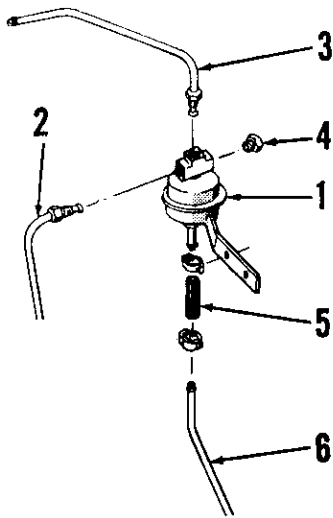
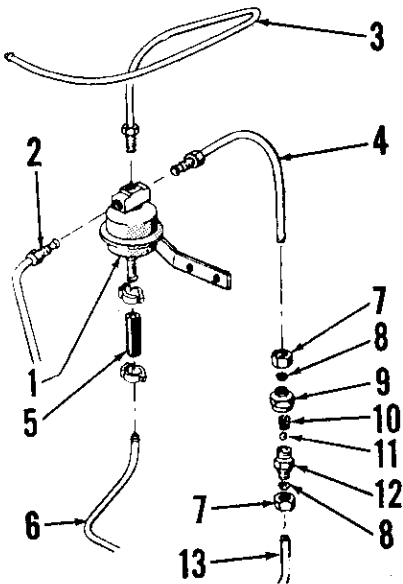

Fig. 144—View showing Thermostart reservoir and fuel line connections for models with C.A.V. fuel injection pump.
Fig. 145—View showing Thermostart reservoir and fuel line connections for models with Simms fuel injection pump.
Fig. 143—Cross-sectional view of diesel Thermostat unit (optional) that is located in intake manifold. Refer to Figs. 144 and 145 for fuel reservoir and fuel line connections.
162. Refer to Fig. 143 for cross-sectional view of the Thermostat unit which is located in the engine intake manifold. The fuel inlet (F) is connected to a small reservoir (see Figs. 144 and 145). In operation, turning the key switch to either "HEAT" or "HEAT-START" position connects Thermostat wire (W—Fig. 143) to battery heating the heater coil (HC) and ignition coil (IC). The hot coils react to pull the valve stem (VS) away from valve ball (VB) allowing ball to unseat and fuel to flow through the unit, where it is heated and ignited, and into the intake manifold.
For connecting fuel lines to Thermostart unit and reservoir, refer to Fig. 144 for models with C.A.V. fuel injection pump or to Fig. 145 for models with Simms fuel injection pump. NOTE: When diesel fuel lines have been disconnected, always make certain that fuel is present at the Thermostart fuel inlet (F—Fig. 143) before tightening the connection at that point. Any attempt to operate the Thermostart unit without fuel available may cause failure of the unit allowing fuel oil to leak into the intake manifold.